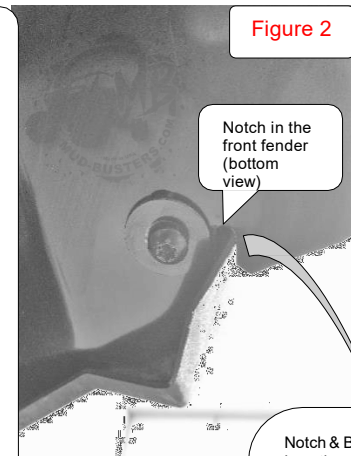

Figure 2
- 3) Insert the nose of the front fender into the front fascia as shown in **Figure 2**. The notch in the front fender will help you align the fender into the correct position.
- 4) Insert (1) 1x1/4" bolt with a large washer through the hole and into the u-nut on the bracket.
Note: It can be helpful to remove the bolt from Figure 2 if you're having difficulty adjusting the fender. The front of the fender flare can be bent upward and inserted behind the front fascia after the fender has been adjusted.